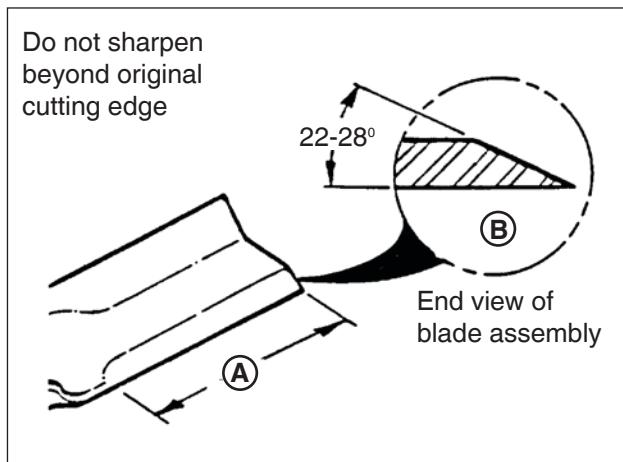

Figure 22: Sharpening the mower blade
- Sharpen the blade on a grinding wheel at an angle of 22 to 28 degrees (**B**, **Figure 22**). DO NOT sharpen the blade beyond the original cutting edge (**A**).